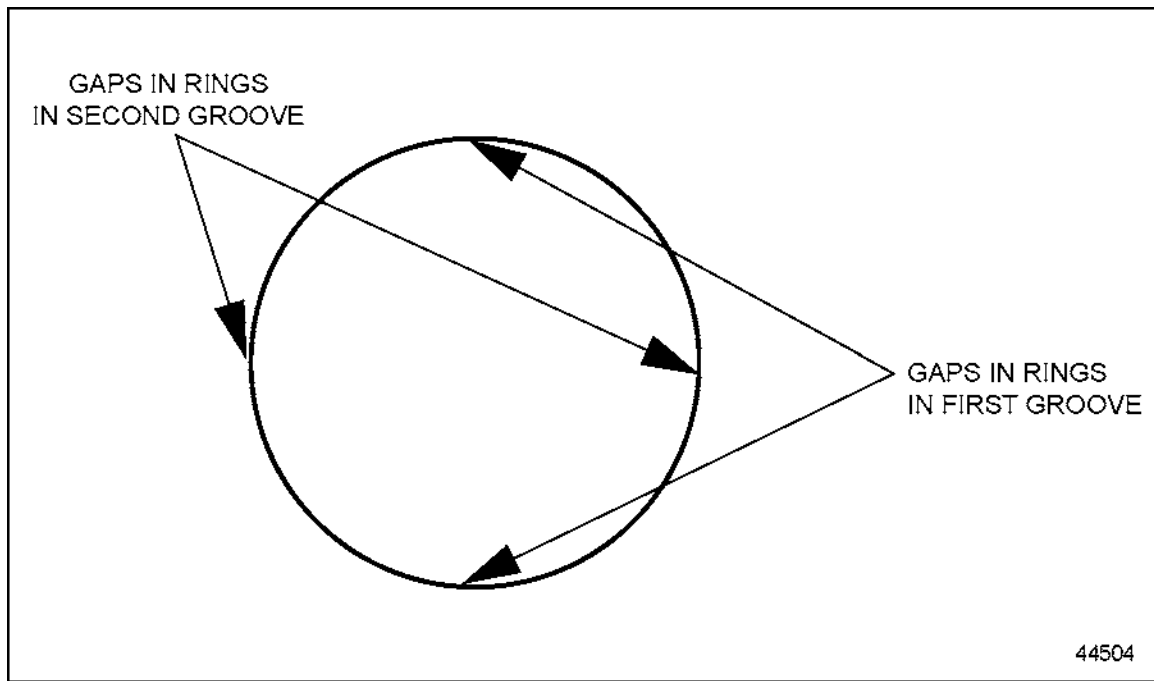

Figure 1 Sealing Ring Gaps
2. Ensure that the gaps on the sealing rings in each groove are 180 degrees from each other, and turn the set of rings in the neighboring groove 90 degrees so that the net effect is a gap every 90 degrees. See Figure 1.